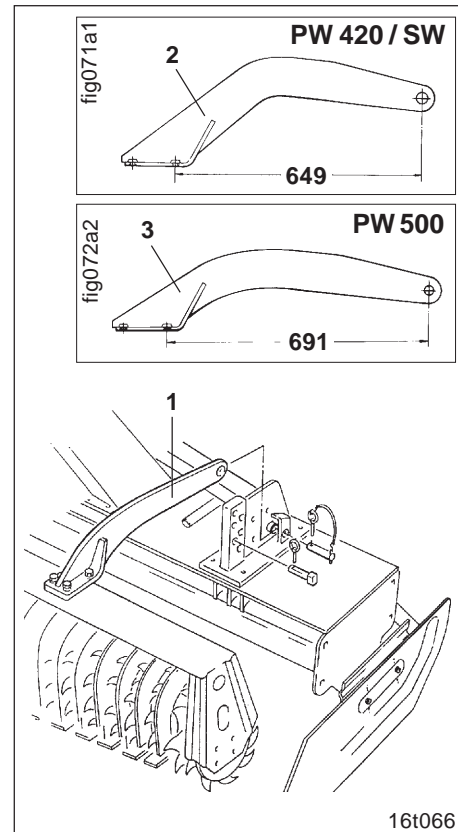

Fig. 7.1
Each packer roller has to be attached to the soil tillage implement with 2 mounting arms (Fig. 7.1/1), e.g. with:
- Carrying arm (Fig. 7.1/2) for tooth packer rollers PW 420 and support rollers SW
- Carrying arm (Fig. 7.1/3) for tooth packer rollers PW 500.